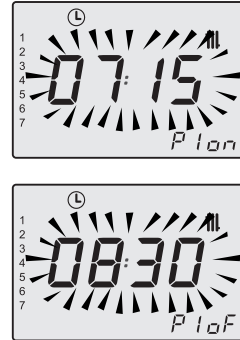

Fig. 2.15
To confirm once time has been set press key 20 then 15 to exit back to the day/group of days selection (Fig. 2.15).